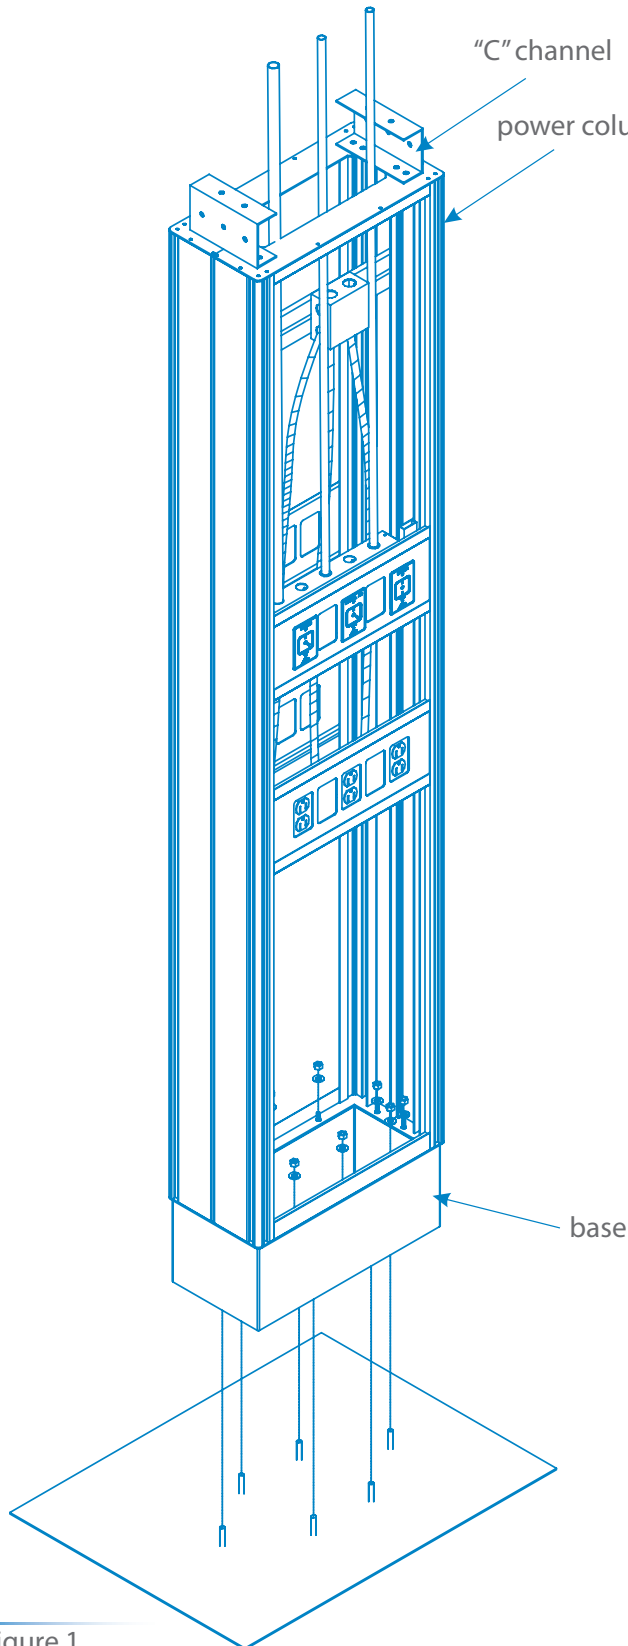

Figure 1
- 3 Anchor base of column to floor (hardware by others). Note that base does not have to be removed to complete this step. See figure 1.